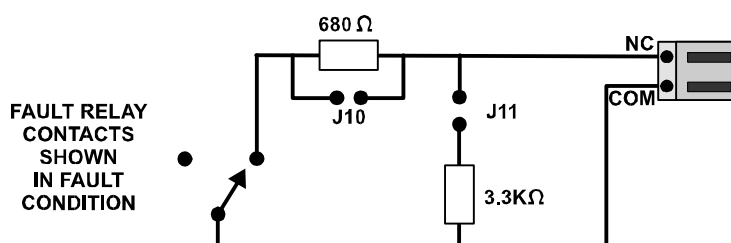

Figure 5: Fault relay Connections
5.3.3 Connecting the Power supply and Fault Relay (refer to Figure 5)
2. Connect the fault relay as shown in Figure 5.